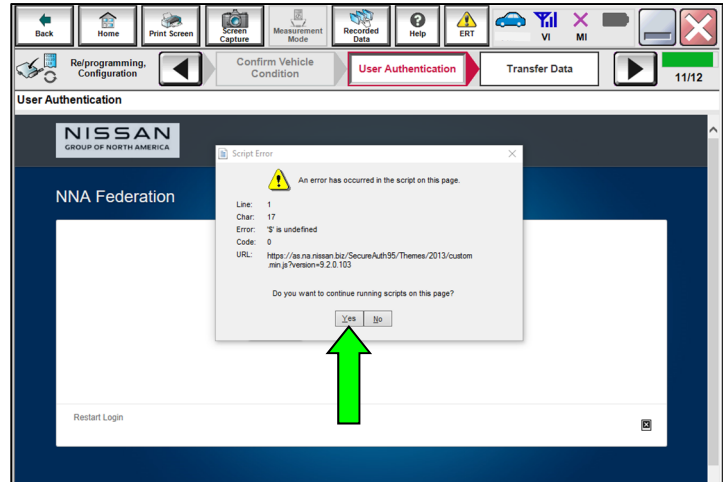

Figure 1
7. If the Script Error shown in Figure 1 is present, select **Yes**.